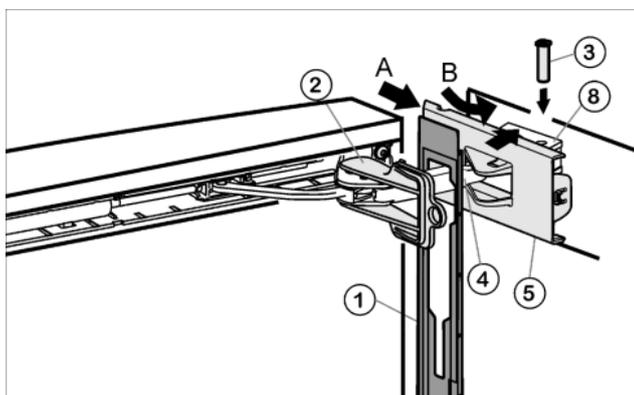

Fig. 17
- ▶ Attach the faceplate Fig. 17 (1) to the soft stop bracket Fig. 17 (4) so that the catches face inwards and the front faces the appliance.
- ▶ Slide on the cover Fig. 17 (5) from the outside (A) and swivel it over the bearing element Fig. 17 (8) (B).
- ▶ Attach the cover Fig. 17 (5) and engage it as far as the first detent.
- ▶ Draw the soft stop bracket Fig. 17 (4) towards the bearing element and insert the pin Fig. 17 (3) from above so that the square is seated in the depression.
- ▶ Now completely snap the cover Fig. 17 (5) onto the bearing element Fig. 17 (8).
- ▶ Twist the safety lock Fig. 17 (2) for removal.
- ▶ Snap the faceplate Fig. 17 (1) onto the door.